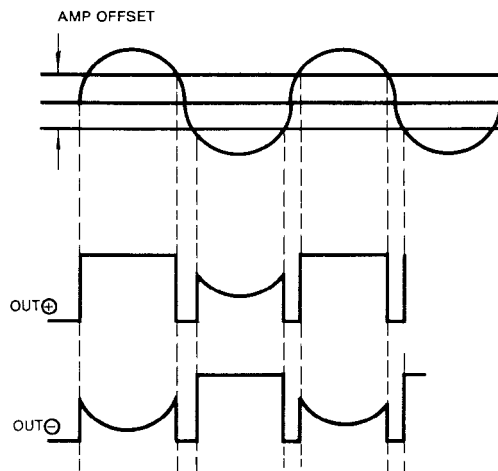

Fig. 7
- Practical output waveform is illustrated in Fig. 7. While output is switching from positive to negative, the status becomes OPEN (This is due to the existence of the amplifier offset). During this period, since the impedance at the IC side becomes high, the output current is determined by external parameters. In general, the load is inductive and a capacitor is connected to the external port to prevent backlash voltage generation.